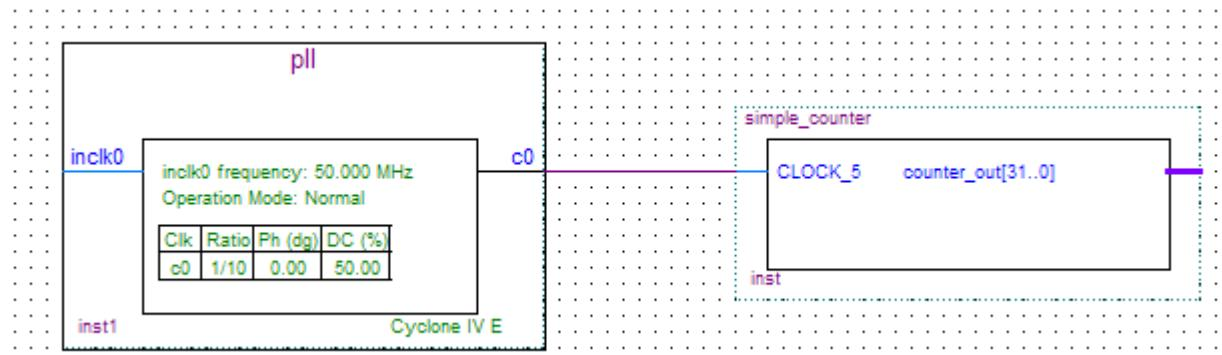

Figure 6-27 Draw a Bus Line connect pll c0 port to simple_counter CLOCK_5 port
- Click and drag a bus line from the c0 output to the simple_counter clock input. This action ties the pll output to the simple_counter input (see **Figure 6-27**).